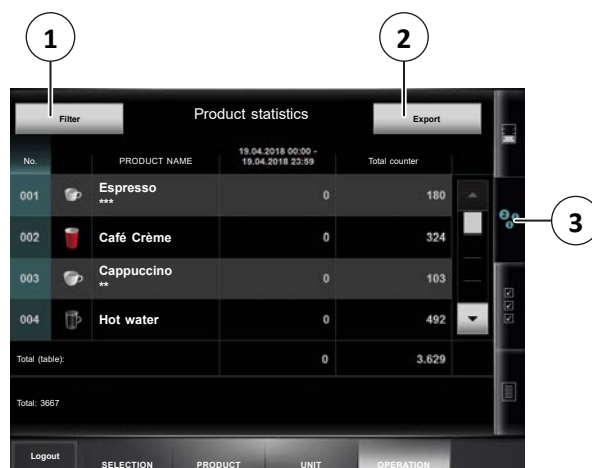

Fig. 40: Product statistics
5. Slide the cover on the inside of the machine door (1) to the side.
6. Insert a suitable USB stick (2) into the USB slot.
8. Press the “Export” button (2) (see Fig. 40).